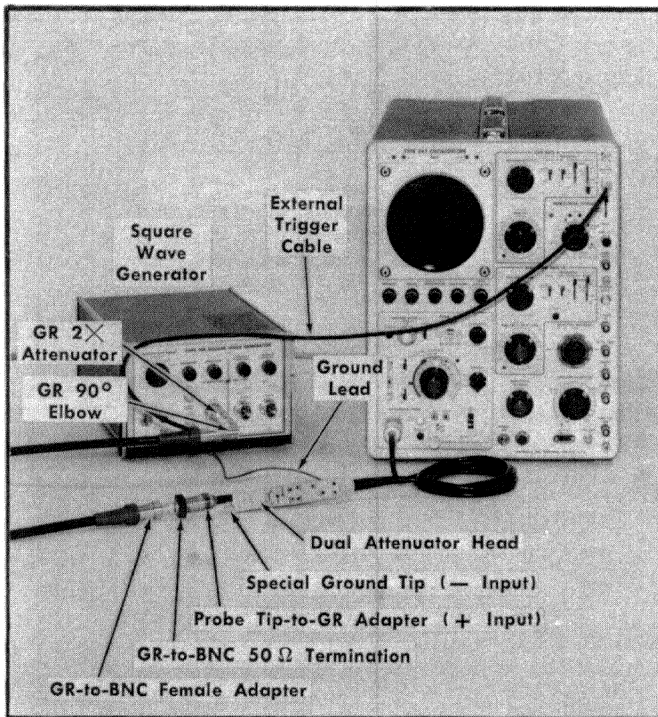

Fig. 6-14. Equipment initial setup for DC shift and overdrive recovery checks, step 8.
a. The preliminary control settings apply. The equipment setup appears in Fig. 6-14.